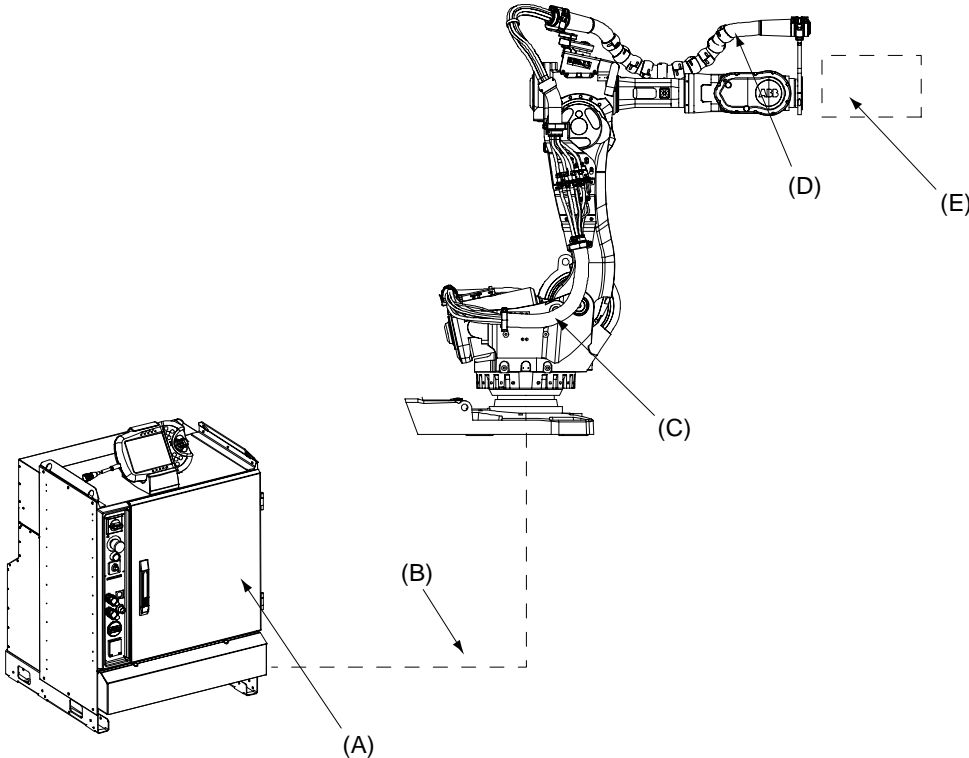

Figure 74 Dresspack configuration.
Variant Type H is designed for Material Handling (MH) application. Included modules are shown in Figure 74.